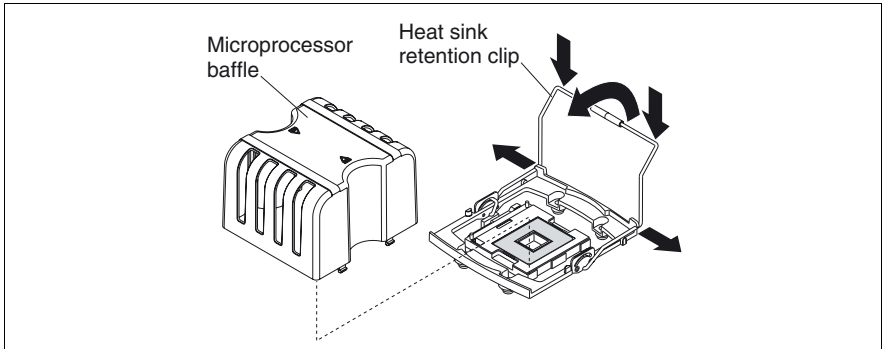

Figure 16: Removing the microprocessor baffle
- ▶ Remove the microprocessor baffle from a microprocessor socket and store it for future use (see figure 16).
- ▶ After having opened the heat sink retention clips of the processor to be replaced (see figure 16 on page 35), remove its heat sink.